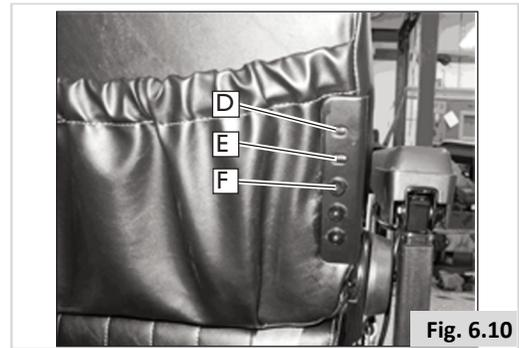

Fig. 6.10
**NOTE** – There are 3 positions of adjustment in 1" increments for the back. Position 2 (+2) (D), Position 1 (+1) (E), and position 0 (default) (F).
- Using a 5mm Hex key, remove the M8 flat head screws (3) on each side.
- Position the backrest at the desired height. The top screw should be mounted as shown, Figure 6.10.